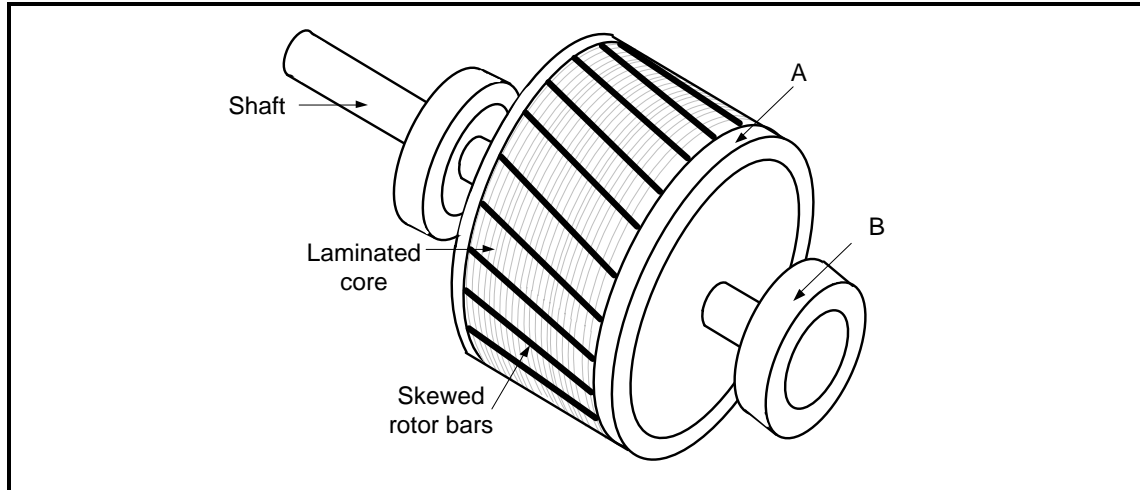

FIGURE 5.1: SCHEMATIC DIAGRAM OF A ROTOR
- 5.1 FIGURE 5.1 below shows the rotor of an induction motor. Answer the questions that follow.